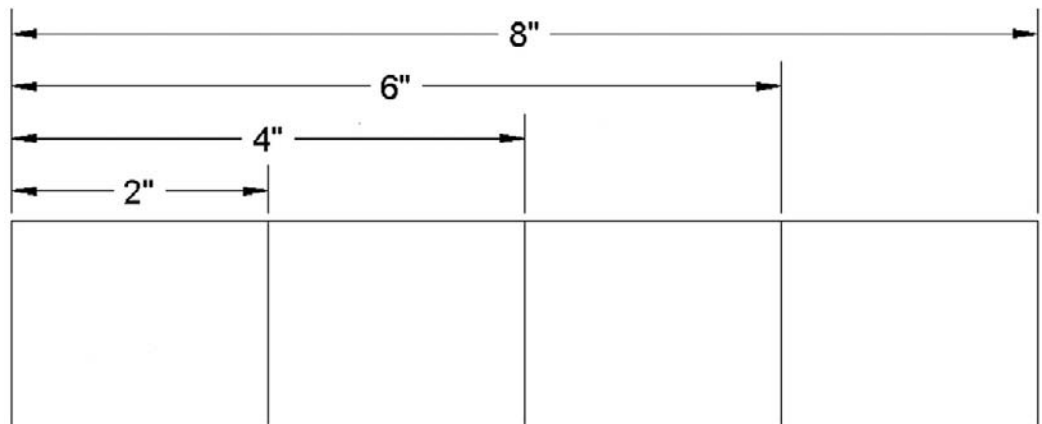

FIGURE 6.13
- You can continue this until you run out of objects to dimension; at that point just press Esc. Your result is shown in Figure 6.13.